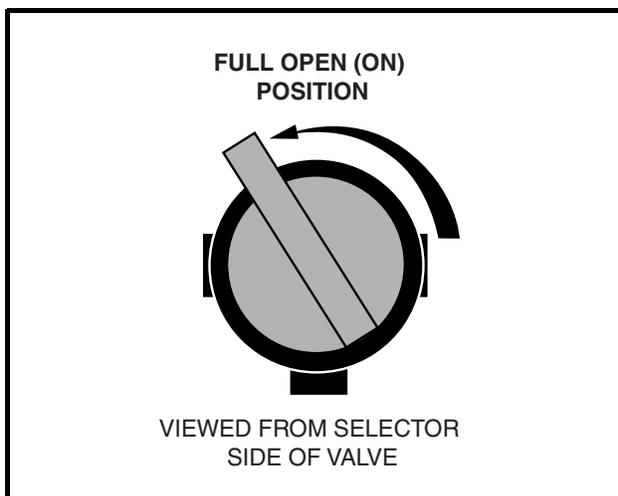
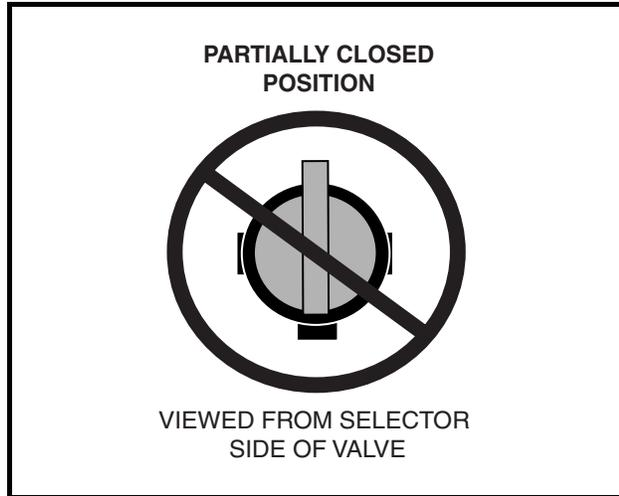

Figure 3-5 Fuel Valve – Open
Figure 3-7 Fuel Valve – Partially Closed
5. Completely open fuel shut-off valve (**Figure 3-5, Page 3-3**). A partially closed fuel valve (**Figure 3-7, Page 3-4**) combined with the use of the choke, can result in a fouled spark plug and engine failure.